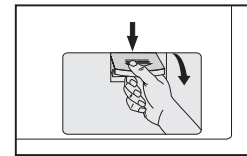

Fig 18
1.After the power is disconnected, use hand to open the filter cover(Fig 18).